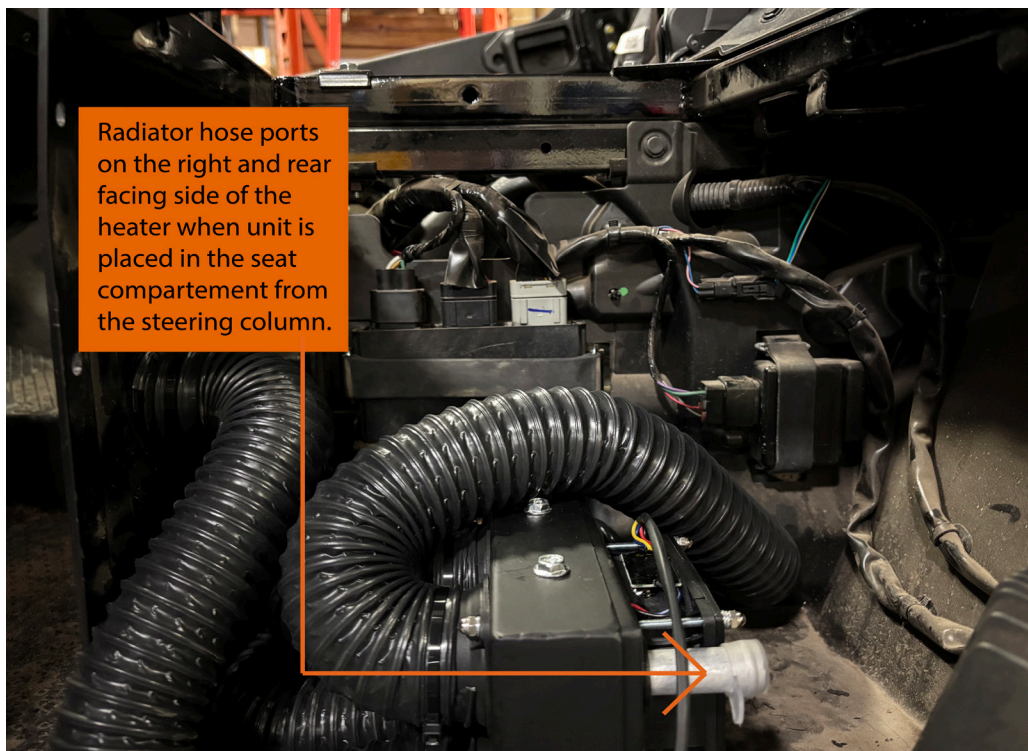

FIGURE 10
25. Have the heater fan facing the back of the machine and the connections for the radiator hose facing the driver side. FIGURE 10